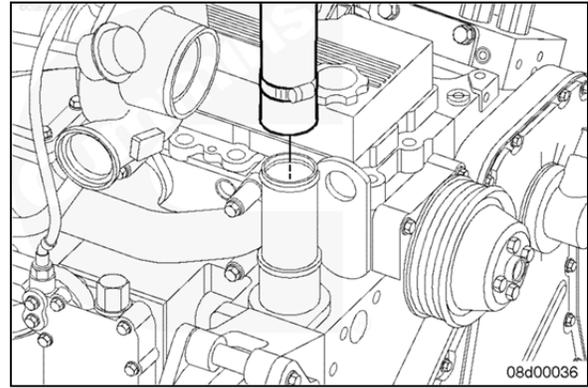

Fig. 5
10. Install radiator hose on the water outlet connection. (Fig. 5)